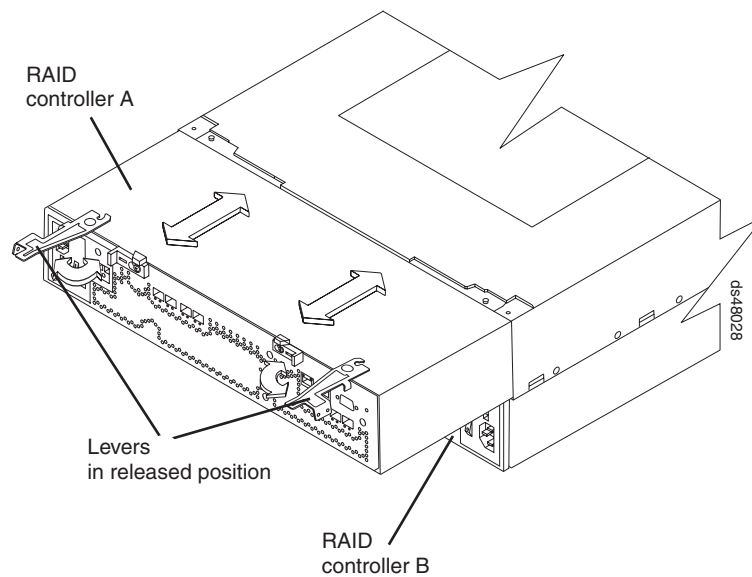

Figure 19. Removing the controllers
5. At the back of the DS4800 Storage Subsystem, use an adhesive note to label each of the controllers. Controller A is in the upper slot; controller B is in the lower slot. Figure 19 shows the locations of the controllers and controller levers.
6. Remove the controllers. Figure 19 shows the controller locations and the controller levers.